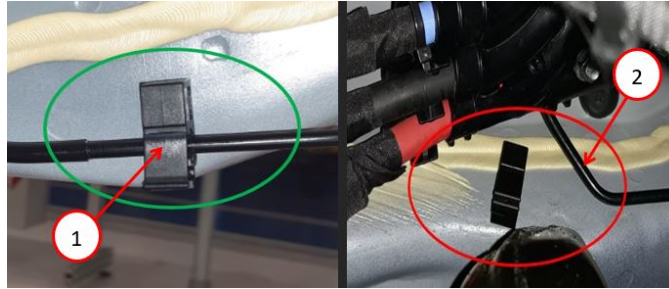

Fig. 1
2. Check that the left front rigid brake pipe is routing into the body strut clip Fig 1.